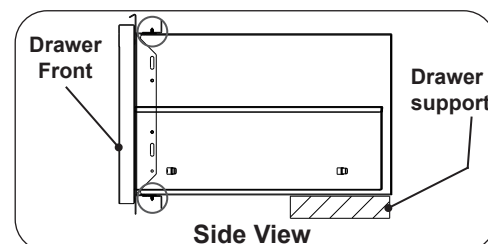

Fig. 4-6 Drawer Installation (Side View)
1. In order to properly support the weight of your drawer, it is necessary to provide a secure, level surface in the rear of the unit (see Fig 4-6). This may be accomplished by using bricks, 2 X 4's, etc. Be sure that the height of this rear support is  $\frac{1}{8}$ " higher than that of the front opening support, so that your drawer sits level.